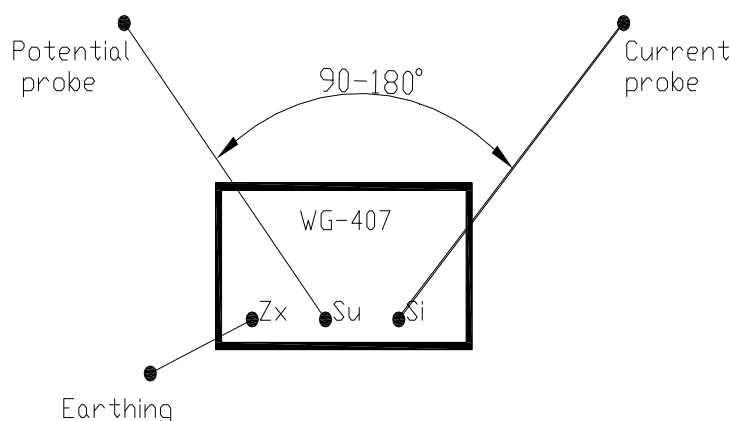

Fig. 3. A suggested configuration of measurement probes
- In order to reduce an influence of electromagnetic coupling on obtain measurement results probe conductors should be placed at a distance of more than 5 m between them. This condition may be easy meet when the probes are arranged in a configuration shown in Fig. 3